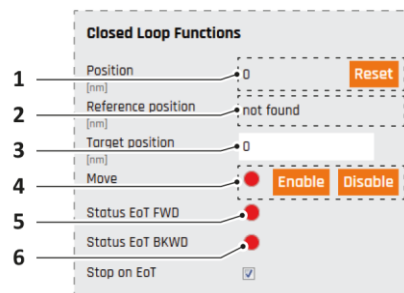

Figure 20 Axis tile, "Closed Loop Functions" section
The position display (Figure 20/1) indicates the current position relative to the current zero position.
The reference position display (Figure 20/2) indicates the position of the current zero position relative to the reference mark.
To find the reference mark after a device start up, the positioner has to cross it at least one time. Otherwise the reference position display (Figure 20/2) displays "not found".
- The reference position display (Figure 20/2) indicates the position of the current zero position relative to the reference mark.
- To set the current position as zero position, click [Reset] (Figure 20/1).
- The value in the position display (Figure 20/1) changes to "0".
- The value in the reference position display (Figure 20/2) changes to "not found" until the reference mark is crossed the next time.
1. Into the target position setting field (Figure 20/3), type in the desired target coordinates and press [Enter].
2. On the movement control (Figure 20/4), click [Enable].
- To stop the movement before the positioner reaches the target, click [Disable] on the movement control (Figure 20/4).